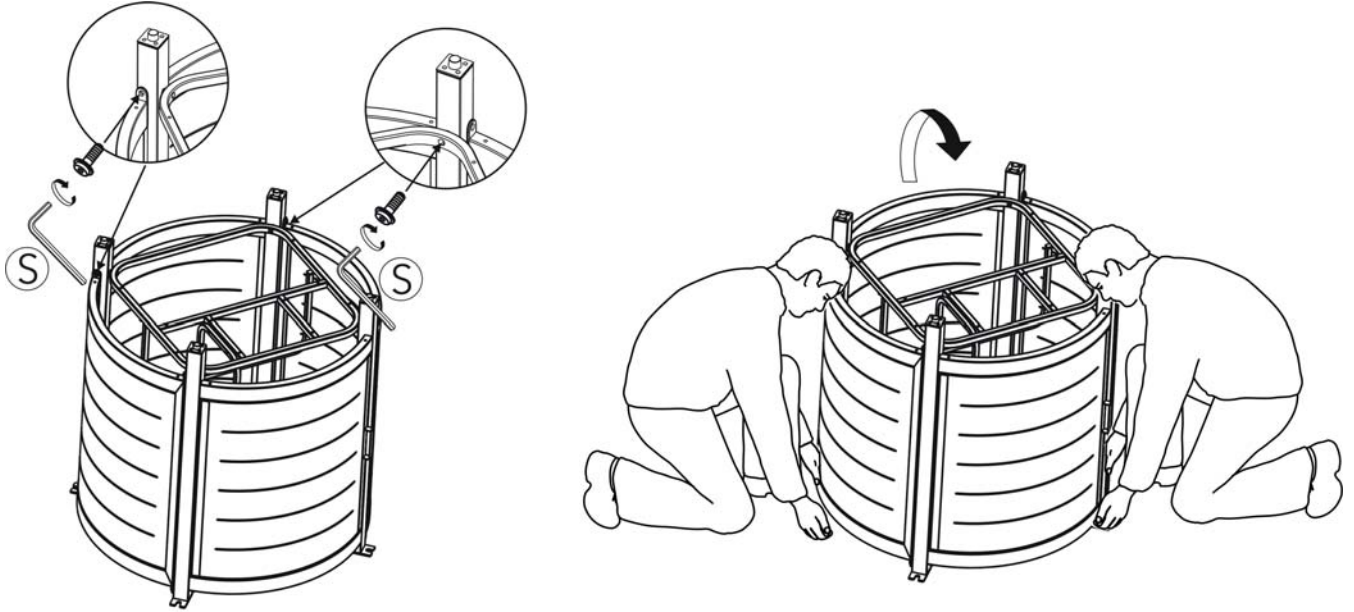

Figure 4
4. After making any necessary adjustments to the alignment of the fire pit base, tighten all bolts with the hex bolt driver. Repeat until all bolts are tightened. ***Don't over tighten. Over-tightening may damage the threads on the bolts and the entire base frame. With the help of another person, turn over the base into the upright position. *** See Figure 4.